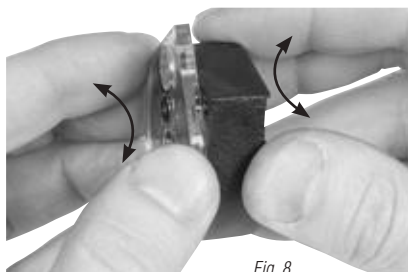

Fig. 8
4. Spinning the cover in the same direction and holding the magazine in a vertical position continue placing the pellets until the all positions are filled. Once the magazine is full, spin the black plastic in the opposite direction and return the magazine to its initial position. (Fig.8)